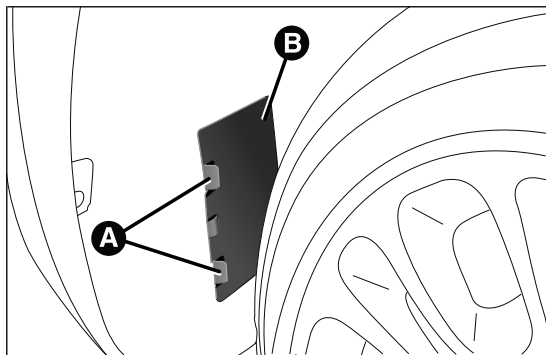

fig. 130
- ☐ adjust the tabs A and remove the flap B fig. 130;